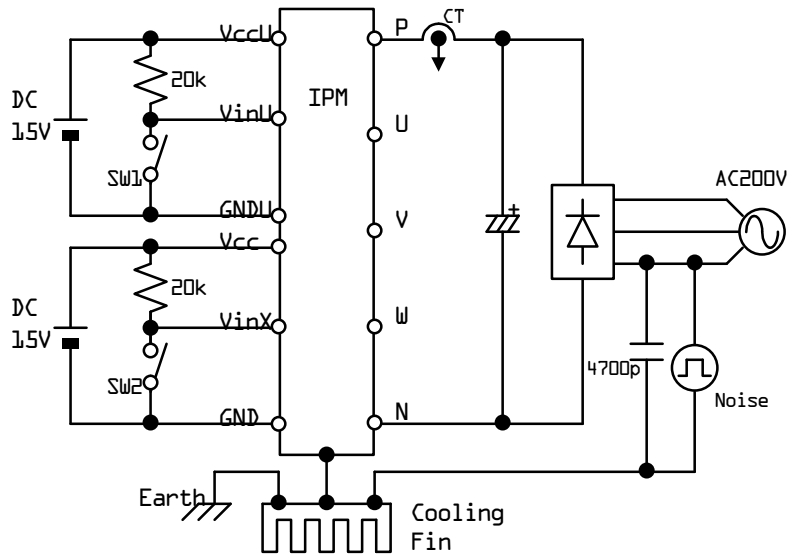

Figure 5. Noise Test Circuit
7. Noise Immunity (Vdc=300V, Vcc=15V, Test Circuit Fig 5.)